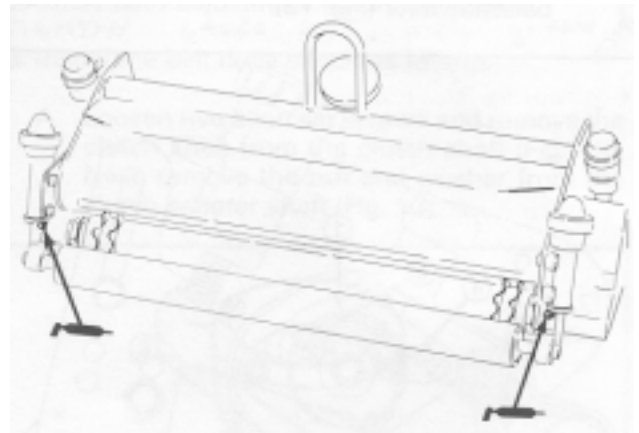

Figure 19
21. Using a hand grease gun, lubricate the grooming reel shaft bearings (Fig. 19). Pump only 2-3 pumps maximum to avoid prematurely damaging the grease seals.
Lubricate the grooming reel shaft bearings with a hand pump or grease gun (2 or 3 pumps maximum) (Fig. 19). Do not over grease as excess grease may cause seal failure.